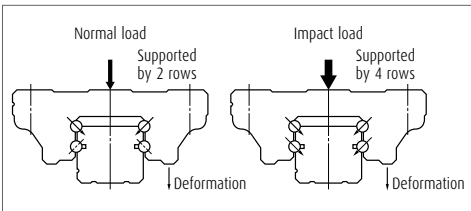

Fig. 5 Shock-resistance
- › When a super-high load (impact) is applied, our Gothic arch groove spreads the load to surfaces which usually do not come into contact in the ball type NSK linear guides. This increases impact load resistance (Fig. 5).
(6) Lineup of extremely high-load capacity series